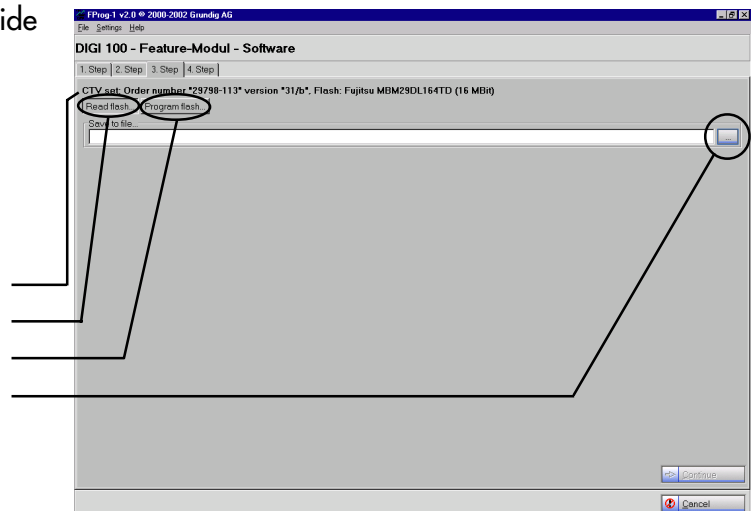

Fig. 8
- Click on the buttons **Read flash** and **Save** according to Fig. 8.
The assigned file name is transferred to the text box "Save in file" of Fig. 8.
- In step 3 click on **Program flash** (Fig. 8). If necessary restart with step 1.